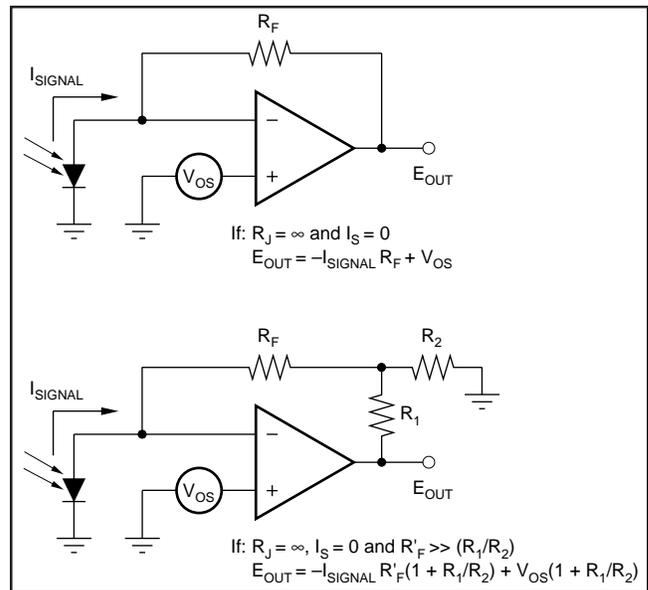

FIGURE 5. Feedback Resistors for Transimpedance Amplifiers.
- A very high resistance feedback resistor is MUCH better than a low resistance in a T network. See Figure 5. Although transimpedance gain ($e_{\text{OUT}}/i_{\text{SIGNAL}}$) is equivalent, the T network will sacrifice performance. The low feedback resistance will generate higher current noise (i_N) and the voltage divider formed by R_1/R_2 multiply input offset voltage, drift, and amplifier voltage noise by the ratio of $1 + R_1/R_2$. In most electrometer amplifiers, these input specifications are not very good to start with. Multiplying an already high offset and drift (sometimes as high as 3mV and $50\mu\text{V}/^\circ\text{C}$) by use of a T network becomes impractical. By using a far better amplifier, such as the OPA128, moderate T network ratios can be accommodated and the resulting multiplied errors will be far smaller. Although a single very-high resistance will give better performance, the T network can overcome such problems as gain adjustment and difficulty in finding a large value resistor.